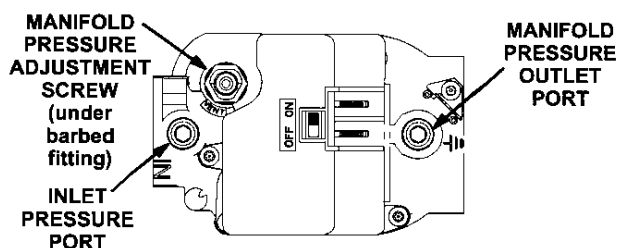

Figure 35.
See Figure 35
6. Move switch on gas valve to OFF. Do not force. See Figure 35.
8. Move switch on gas valve to ON. Do not force. See Figure 35.